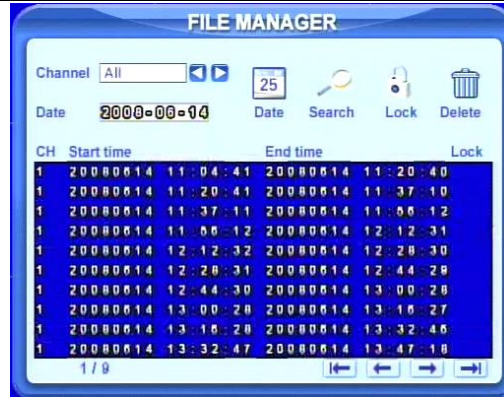

Fig 5.9 File Manager
STEP4 Select the files and click Lock, it will lock the selected files. At this time, a letter "L" display at the end of the file rows as Fig 5.9 File Manager.